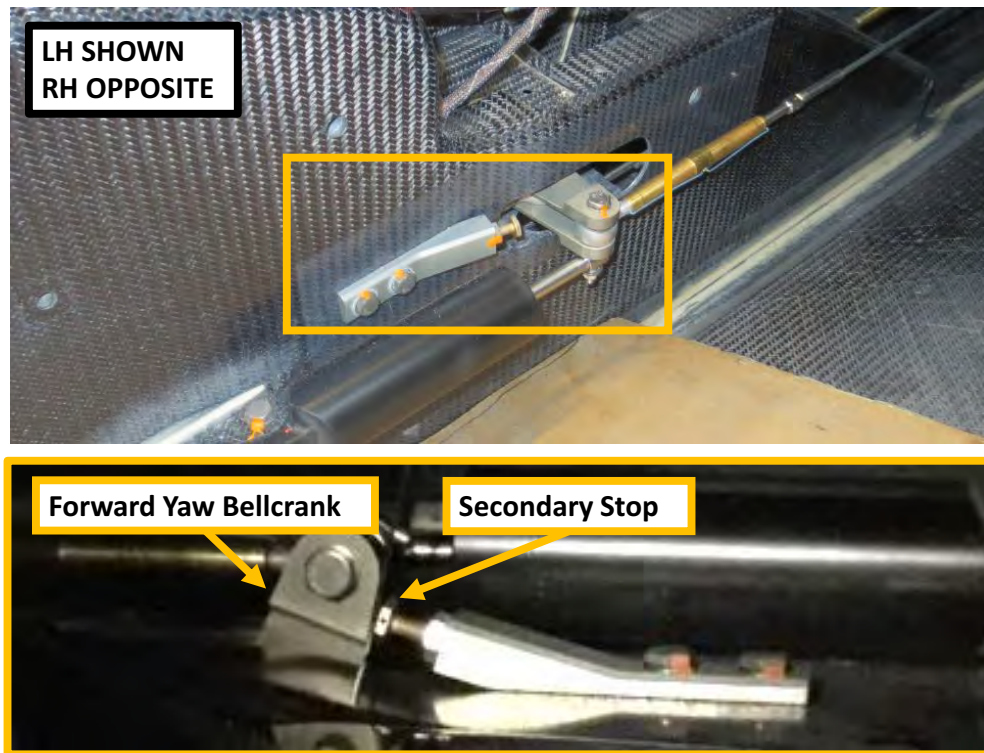

FIGURE 9-63
24. With the aid of another person, adjust the secondary stops, torque to 12-15 in-lbs. Do not exceed 25 in-lbs. Depress the RH pedal until the primary stop is contacted. Adjust the gap between the secondary stop and bellcrank to 0.032-0.036 in. See Figure 9-63.